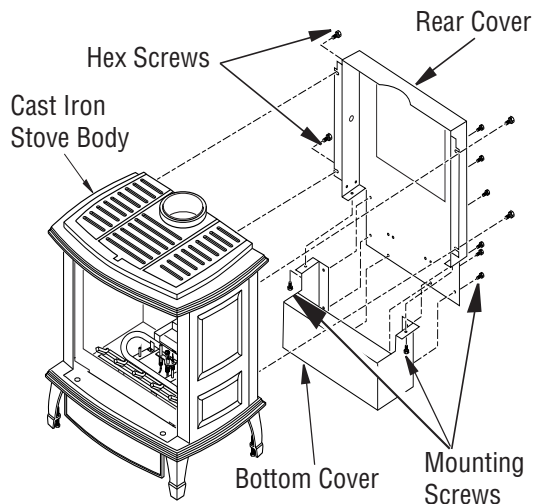

Figure 26 - Attaching Rear Cover and Bottom Cover from Stove Body
2. Using hex screws provided, attach rear cover to back of stove body. See Figure 26. **IMPORTANT:** This rear cover must be securely in place before venting pipes are installed.